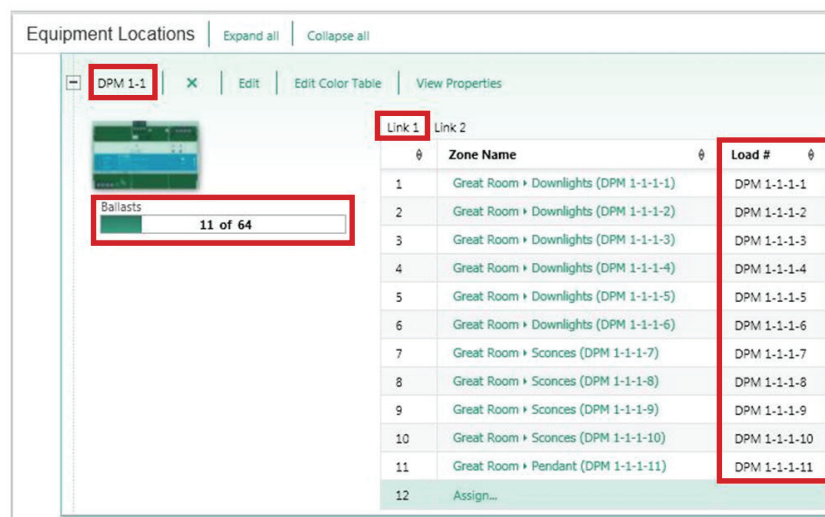

Figure 4
2. Click on the "Assign" link in the Zone Name field for the DPM that you want to assign drivers to and assign each driver to the appropriate DALI® loop and address slot (1-64). See Figure 4 below for an example of drivers assigned to DALI® loop 1. Notice how the Load # of each driver clearly defines the DPM Panel #, DPM #, DALI® loop #, and Address #.